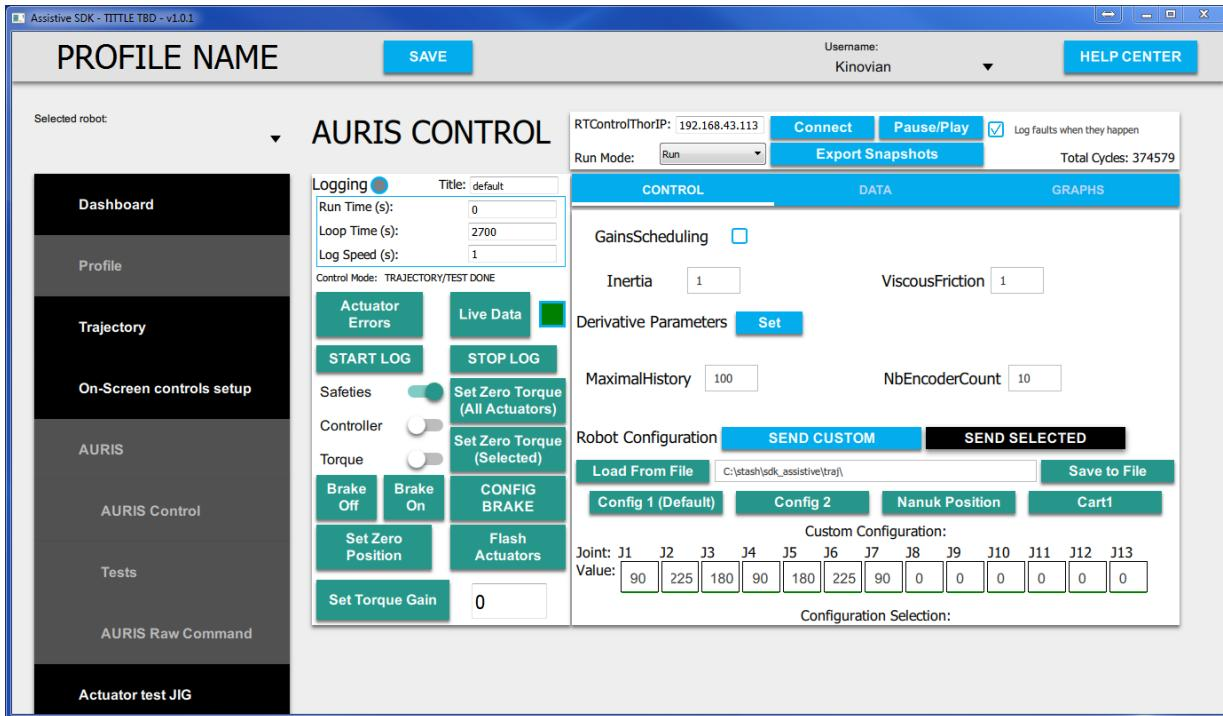

Figure 6: NOVA interface
2. run sdk_assitive to get NOVA interface on PC (as in Figure 6)